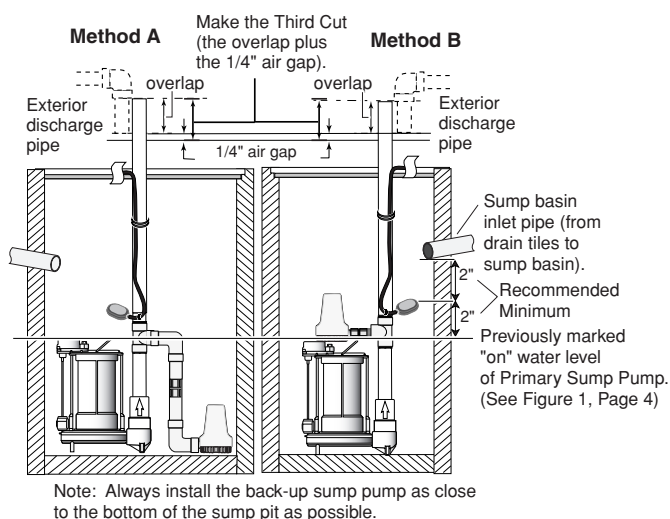

Figure 7 – Make third cut to remove excess discharge pipe
2. Mark the discharge pipe where it should be cut. Be sure to leave a 1/4" air gap between the ends of the pipes. This gap will absorb noise from vibration and allow for flexibility. See Figure 7.
3. Make the third cut (See Figure 7).
1. Connect the pump discharge pipe to the exterior discharge pipe with the rubber coupling and clamp kit (Key No. 1). Do not tighten the clamps until all the final adjustments are complete. See Figure 7.
1. Put the double pump assembly back into the pit. See Figure 7.